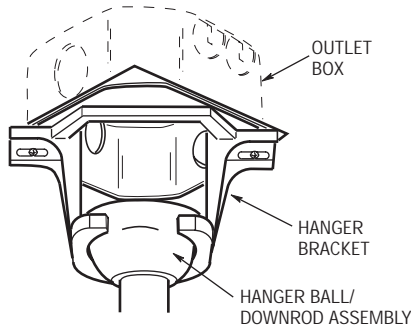

Figure 9B
- 15. Carefully lift the fan and seat the hanger ball/downrod assembly on the hanger bracket that was just attached to the outlet box (Figure 9B). Be sure the groove in the ball is lined up with the tab on the hanger bracket (Figure 8B).